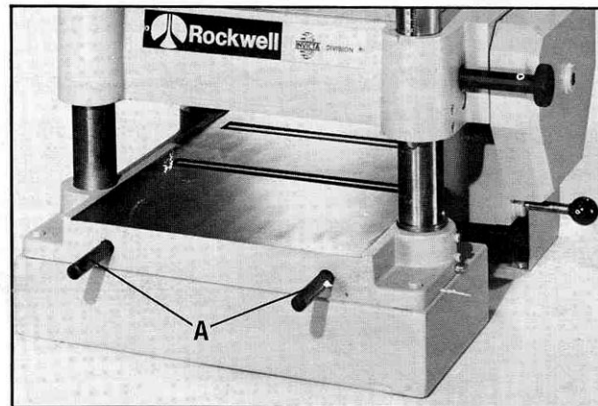

Fig. 2
Your machine is supplied with four lifting handles that are to be assembled to the front and rear of the planer table. The two front lifting handles are shown at (A) Fig. 2. To assemble the lifting handles to your planer, proceed as follows.